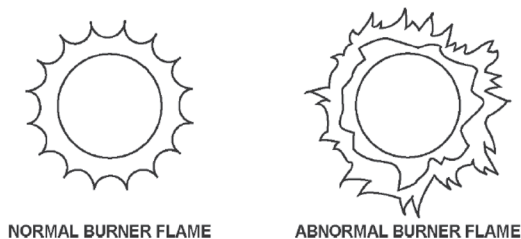

Figure 83. Normal and Abnormal Burner Flames
- Cause no excessive lifting of flame from burner ports. See **Figure 83**.